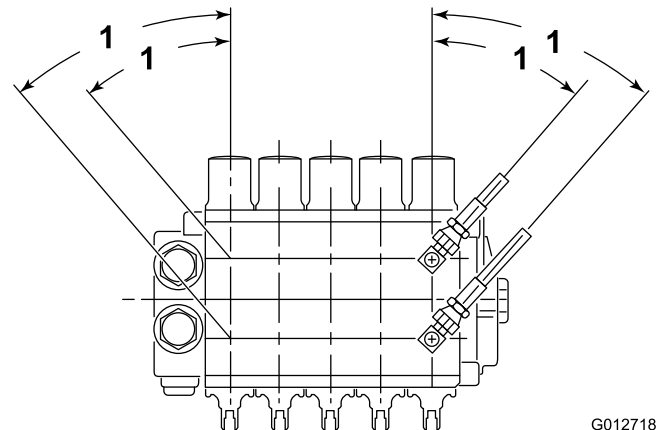

Figure 3
7. On the new 90 degree fittings, lubricate the O-ring seals with oil and install the fittings into the valve sections. Position the fittings as shown in Figure 3.